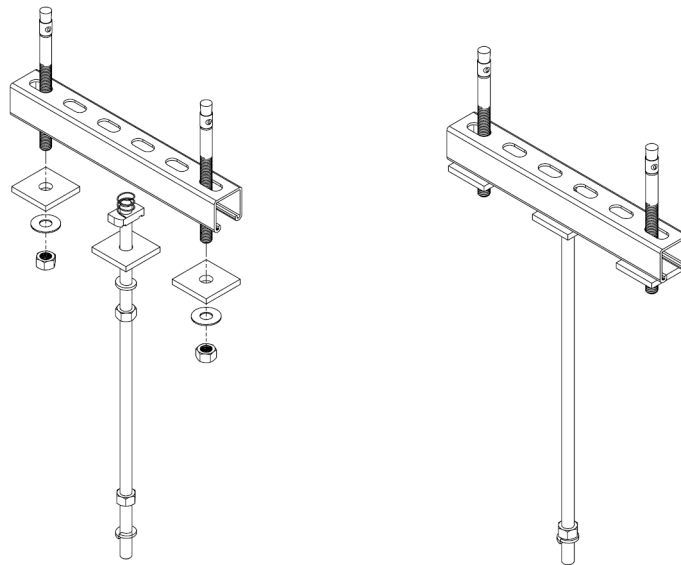

Figure 258: **Concrete Installation Assembly (Detail)**
12. Repeat steps 3–11 for each attachment point. Figure 258 diagrams the assembly.